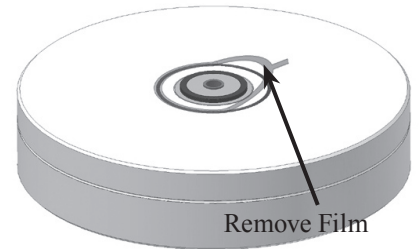

Figure 16
13. Remove the protective film from the bottom of the Turntable Platter cover the Optical Ring. Refer to figure 16.